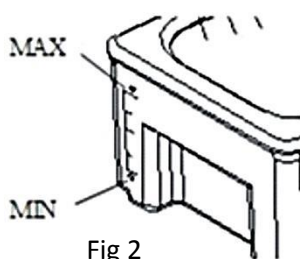

Fig 2
- a) Check the level of the bottom water tank in the water tank before adding water to the top tank.(Fig 2)